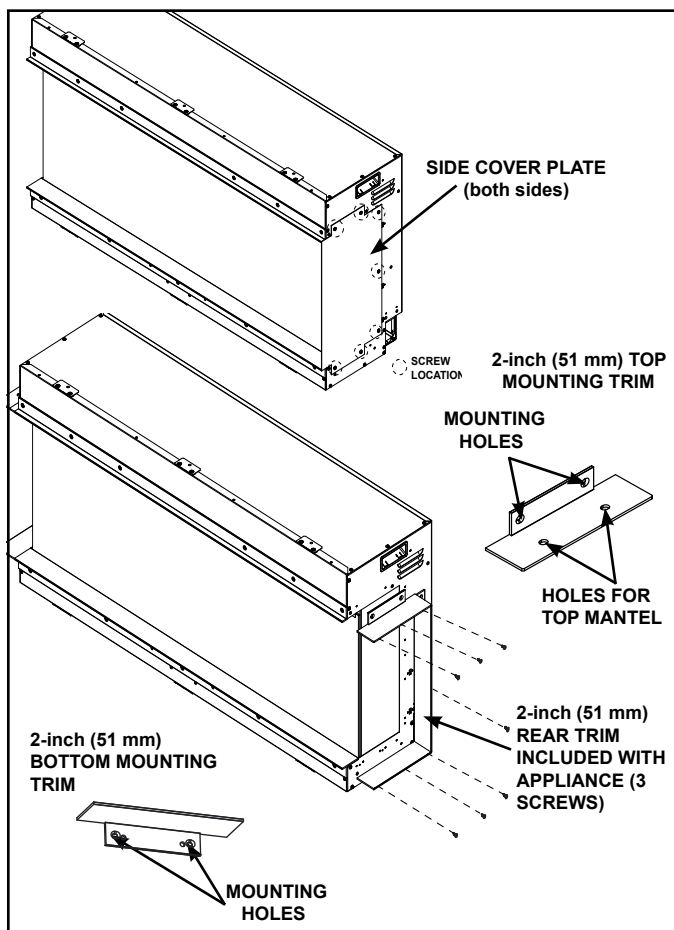

Figure 9
1. Remove flat side cover-plates by removing seven (7) screws on each side. See Figure 9.
Re-use the screws removed from the cover-plates to install the 2-inch (51mm) top mounting trim pieces, provided with the mantel kit, on right and left side of the appliance. See Figure 9. Continue by installing the rear and bottom 2-inch (51mm) trim pieces provided with the appliance.
Note: The top 2-inch trim has two extra holes for attaching the top mantel, as shown in Figure 9.